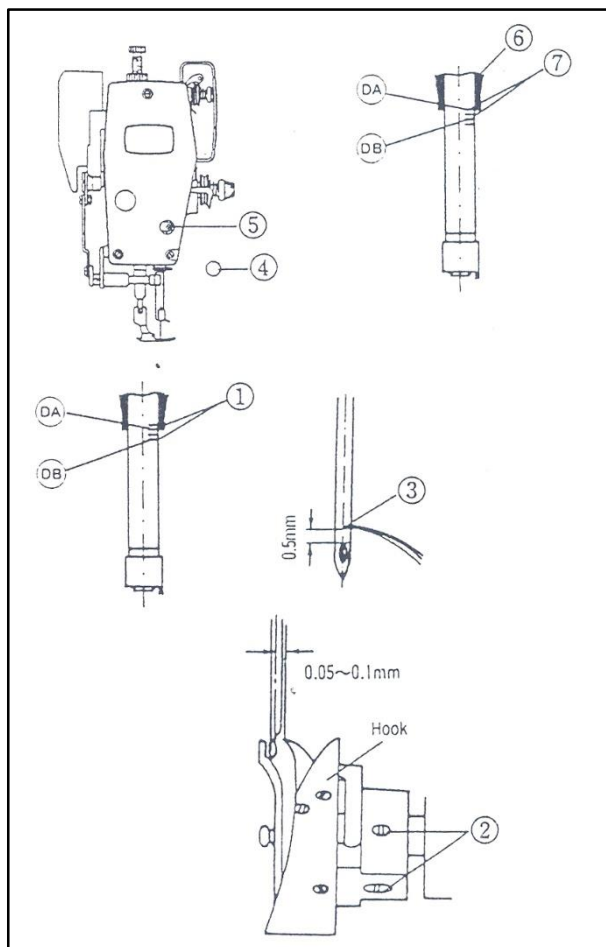

Figure 7.2
As shown in Fig. 7.2, remove the rubber plug (4) from the front cover. Rotate the pulley to move the needle to its lowest position. Then release the needle fixing screw (5). Align the upper punch mark (7) on the needle bar with the bottom end of the needle bar lower bushing (6) and then tighten the screw (5) and fit the rubber plug (4).
As shown in Fig. 7.2, align the lower punch mark of the needle bar (1) with the end of the lower needle bar bushing (6) and release the three fixing screws (2). With the point of the hook (3) set to the centre of the needle, adjust the point of the hook to give 0.05-0.1 mm gap. Tighten the three screws (2).